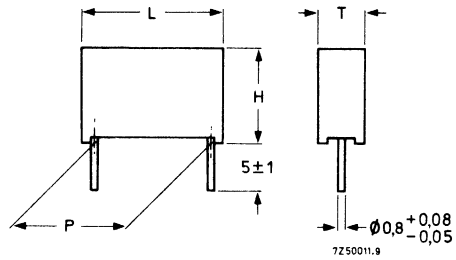

Fig. 1 Component dimensions.
Table 1 U_R (DC) = 630 V; rated AC voltage = 300 V (see Fig. 1)
Table 2 U_R (DC) = 1000 V; rated AC voltage = 400 V (see Fig. 1)
Table 3 U_R (DC) = 1600 V; rated AC voltage = 500 V (see Fig. 1)